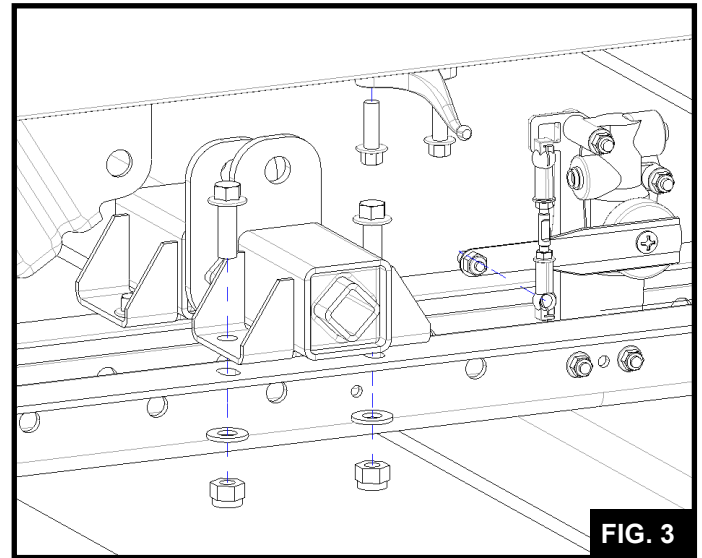

FIG. 3
Remove the (4) bolts, (4) washers and (4) nuts that secure the lower lateral control rod mount assembly to the crossmember. Retain these parts and fasteners as they will be reused (**FIG.3**).
Remove the (2) bolts holding the pivot ball bracket to the cab. Retain these parts as they will be reused (**FIG.3**).